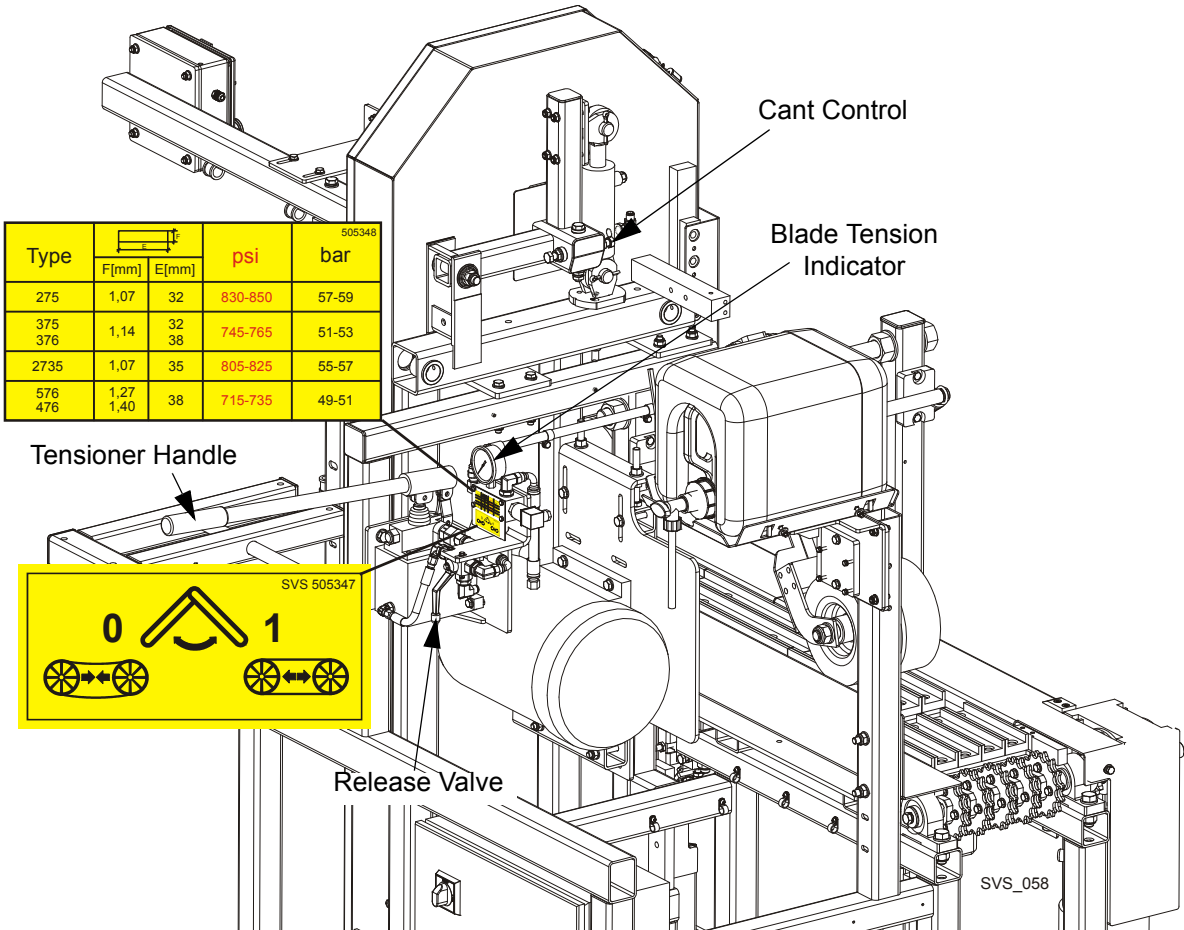

FIG. 2-3
See Figure 2-3. Place the provided handle in the blade tensioner socket and secure with a screw. Set the tensioner valve to position “1”. Move the tensioner handle up and down to tension the blade. Depends on the installed blade type, tension the blade to the value shown on the decal located below blade tension valve. Values “F” and “E” are: blade thickness and blade width. Check the blade tension occasionally when adjusting the cant control or while cutting and adjust if necessary. As the blade and belts heat up and stretch, the blade tension will change. Also, ambient temperature changes can cause
5. Use the cant adjustment bolt, shown in **Figure 2-3**, to adjust where the blade travels on the blade wheels.